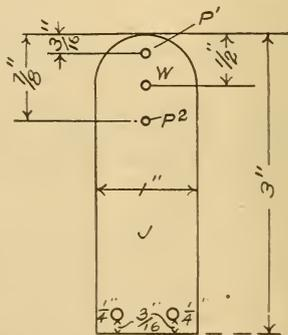

FIG. 14. SPRING BRASS STRIP
The spring brass strips (J) and (I) are now prepared. (J) should measure three inches high, one inch wide and 1-32 inch thick. The top is rounded off as shown in Fig. 14. Holes one-eighth inch in diameter (O, O) are drilled through, three-sixteenths inch from the bottom and one-fourth inch from the edges. The hole (P') is drilled through the center three sixteenths inch from the top, and (P²) is seven-eighths inch from the top. The hole (W) is one-